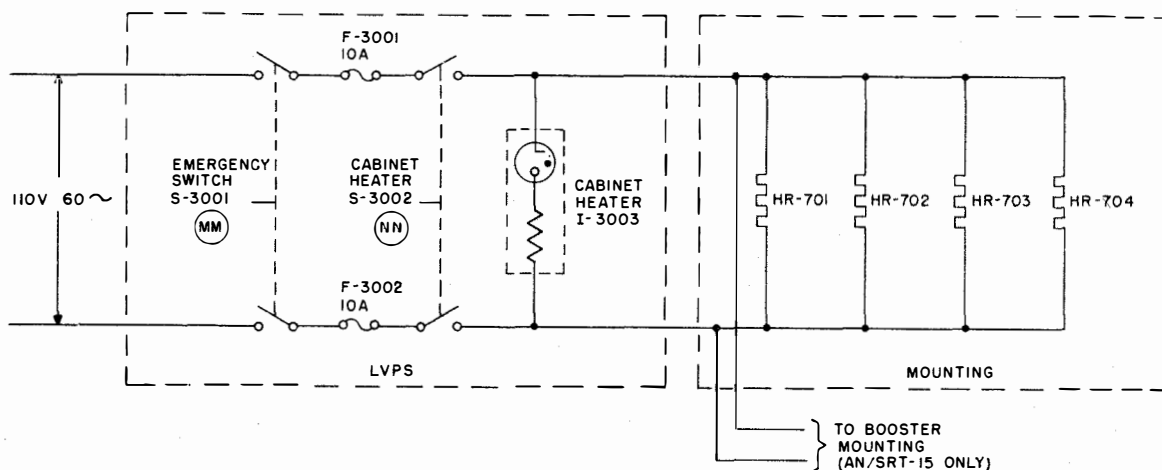

Figure 2-112. Heaters HR-701 Through HR-704, Simplified Schematic
c. HEATERS.—Heating elements HR-701, HR-702, HR-703, and HR-704 (figure 2-112) are used when the temperature is below 16°C . (60°F .) to keep the oven circuits in the RFO at a temperature that permits them to function properly. When the cabinet ambient temperature is less than 16°C . (60°F .), the oven circuits are not capable of raising the temperature inside the oven to the specified 75°C . (167°F .) It may also be desirable to operate the heaters continuously when the equipment is shut down for long periods of time to prevent the condensation of moisture in the equipment. Power to the heating elements is controlled by CABINET HEATER switch Ⓢ S-3002 in the LVPS. When the temperature is between -1°C . (30°F .) and 16°C . (60°F .), heater and transmitter power should be turned on simultaneously, and the heaters should remain on 15 minutes. If the temperature is below -1°C . (30°F .), the heaters must be left on continuously (i.e., for the duration of transmitter operation).